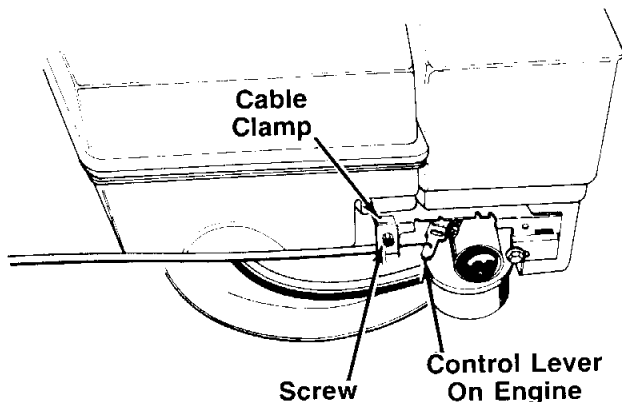

FIGURE 8.—Model 12871
- The throttle control cable is attached to the upper handle. Route the throttle control cable under the lower handle and inside the handle mounting bracket. Hook the "Z" end of the throttle control cable into the control lever on the engine as shown in figure 8.
- Loosen (do not remove) the screw on the cable clamp shown in figure 8. Slip the control casing under the clamp (cable must move freely beneath the clamp).